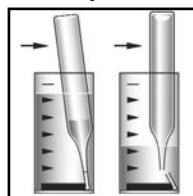

Figure 3
5. **Immediately** place the Vacu-vial ampoule, tip first, into the sample cup. Stir briefly to mix the contents of the cup, then snap the tip. The ampoule will fill leaving a bubble for mixing. Fig. 3